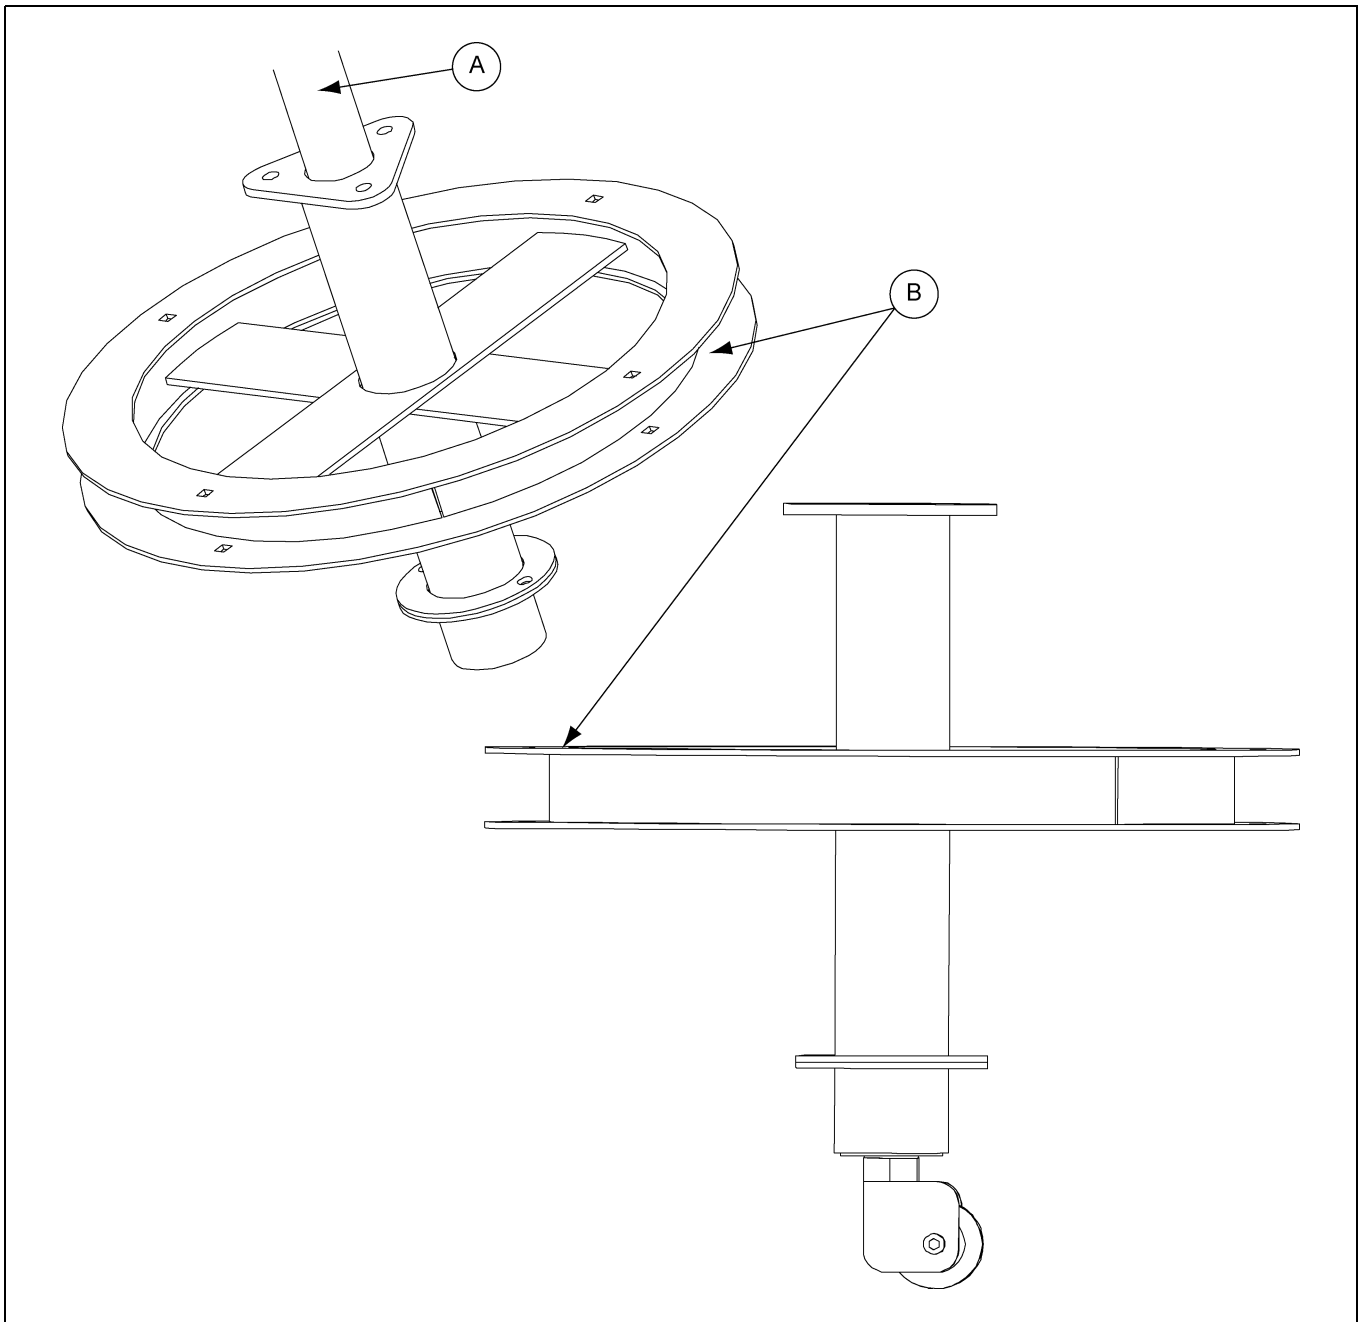

Figure 5A
Once the distributor has been installed, the cable controls can be installed. First, install the cable wheel. The cable wheel (B) mounts to the control pipe (A) coming from the bottom of the distributor using three (3) 3/8"-16 x 1-1/2" bolts (S-7521) and three (3) 3/8"-16 flange nuts (S-968). (See Figure 5A.)